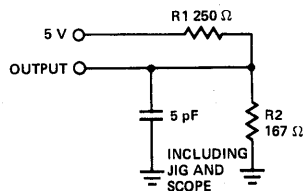

Figure 1b
3. Transition is measured at steady state High level - 500 mV or steady state Low level + 500 mV on the output from the 1.5V level on the input with loads shown in *Figure 1b*.
6. See *Figure 1b* for tHZ.
5. Transition is measured at steady state HIGH level - 500 mV or steady state LOW level + 500 mV on the output from the 1.5V level on inputs with load shown in Figure 1b.